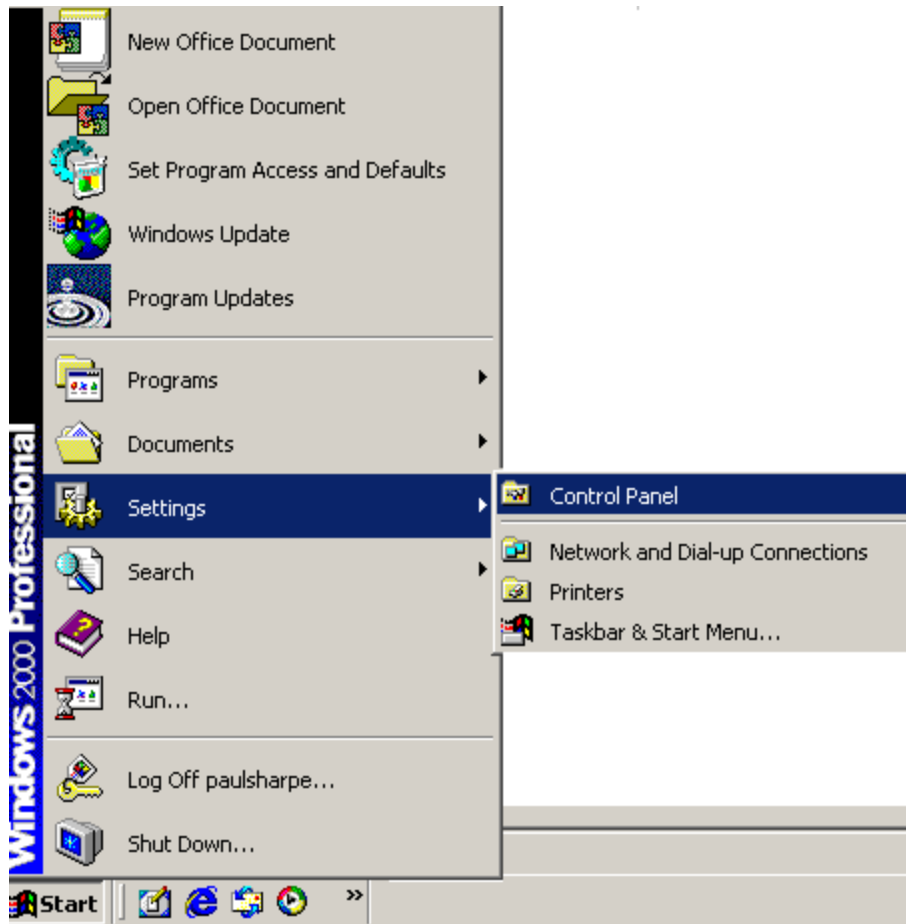

Figure 7-3: Access Windows Control Panel
Step 1: Open **Windows Control Panel** (Figure 7-3).